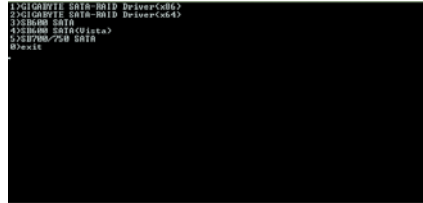
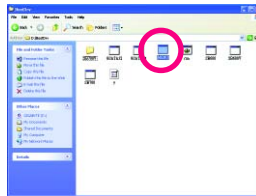

Figure 2
Figure 3
Step 2: When the controller menu (Figure 2) appears, remove the startup disk and insert the blank formatted disk. Select the controller driver by pressing the corresponding letter from the menu. For example, from the menu in Figure 2, to install Windows XP to your RAID/AHCI hard drives, select (5) SB700/750 SATA for the AMD SB700 SATA controller. Your system will then automatically zip and transfer this driver file to the floppy disk. Press <0> to exit when finished.
Use an alternative system and insert the motherboard driver disk. From your optical drive folder, double click the MENU.exe file in the BootDrv folder (Figure 3). A command prompt window will open similar to that in Figure 2.